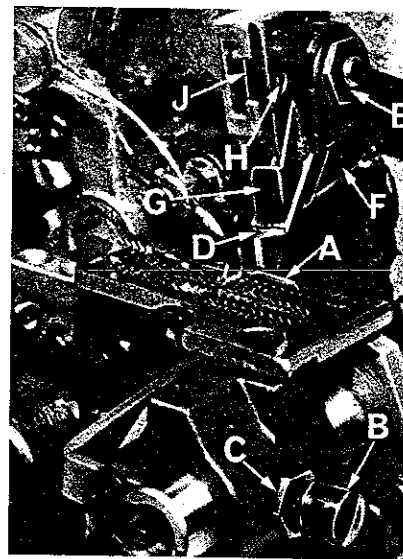

Fig. 13
Replace lower knife holder assembly. Lower knife (A, Fig. 13) should be set with cutting edge flush with throat plate surface. Adjustments are made with hexagonal head screw which holds lower knife. Lower knife is spring pressed against upper knife, so no lateral adjustment is necessary when width of trim is changed.
Replace upper knife assembly. Clamp upper knife (D, Fig. 13) in position, setting nut (E) to hold clamp (F) in its most clockwise position against upper knife. Upper knife chain guard (G) should be positioned so that the guarding section is approximately $1/64$ inch behind the cutting edge and in contact with the top surface of the upper knife.